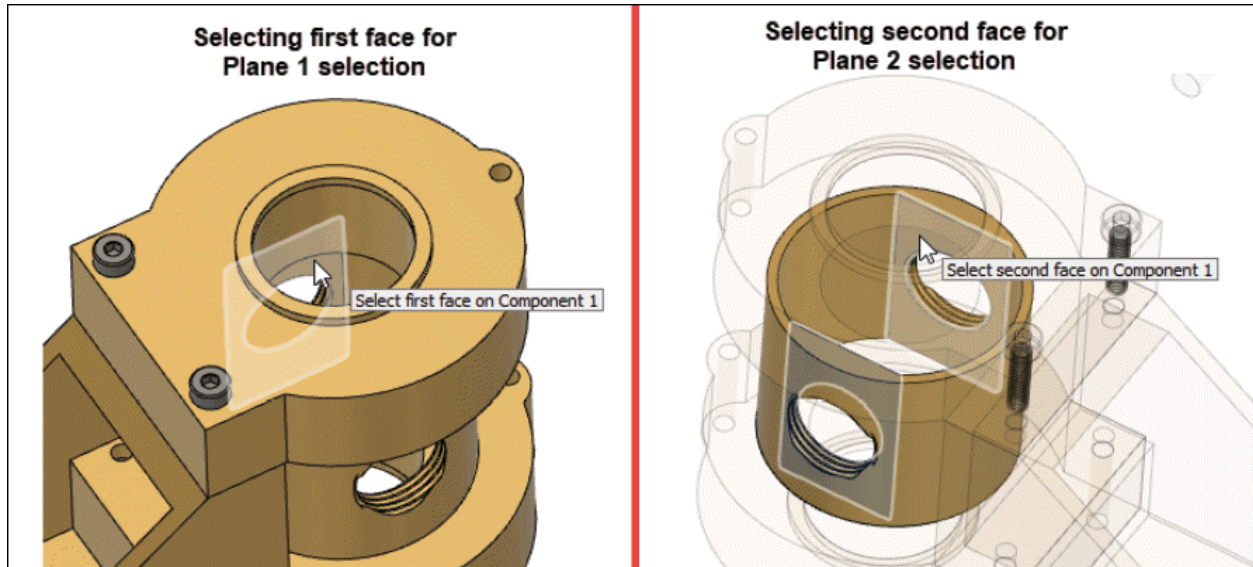

Figure-83. Selecting faces for Component 1
- The **Select** button of **Plane 1** section is active by default. Select first face of the component as shown in Figure-83. You are asked to select the second face.
- The **Select** button of **Plane 2** section will become active. Select second face of component as shown in Figure-83. You are asked to select a snap point.